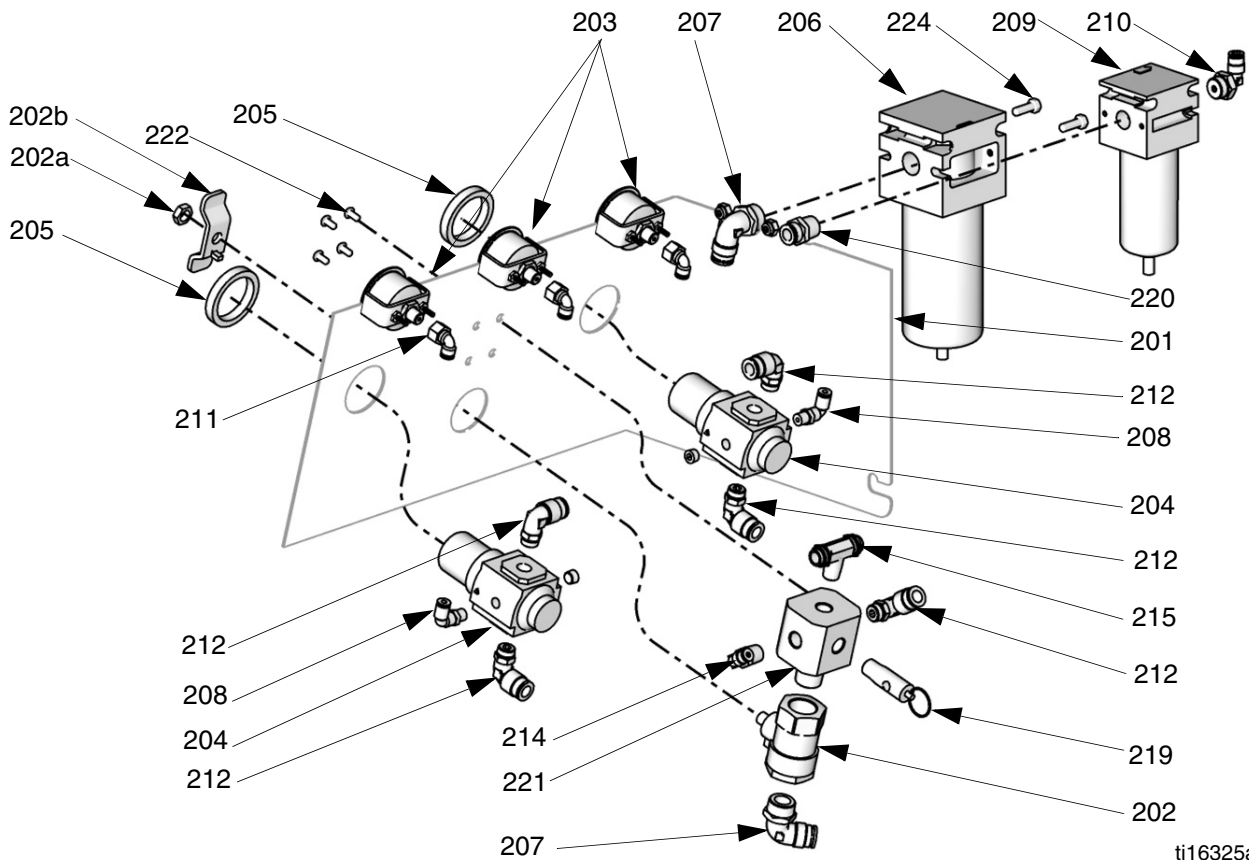

FIG. 18. Air Controls, Pump System
See FIG. 18, page 26, for a full diagram of the pump air controls.
2. See FIG. 18, page 26. Remove regulator nut (205) and disconnect air lines running to regulator (204).
2. See FIG. 18, page 26. Remove nut (202b) and handle (202a) from front of air control plate.
3. Remove four screws (222) from front of air control plate.
6. Disconnect ball valve (202) and safety valve (219). Replace parts as necessary, including manifold. See **Air Controls, Pump-Based Models 24F088-24F115 and 24Z017-24Z018**, page 42.